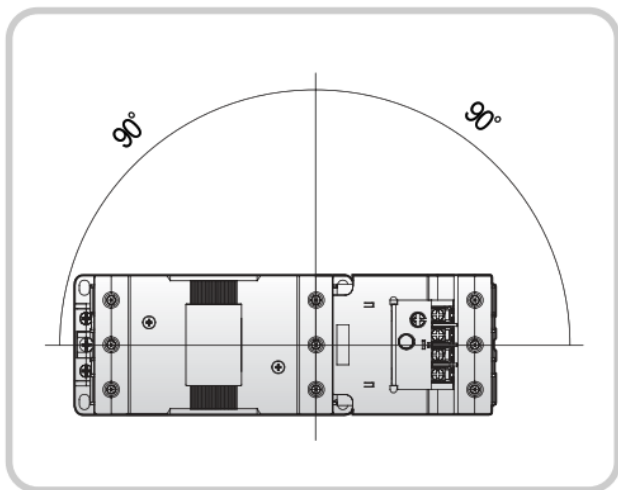

Fig. 13. Lateral installation
a) Please install with being rotated 90 degrees counterclockwise from standard installation direction as seen in figure 13. If you're only using the magnetic contactor, any direction is okay.